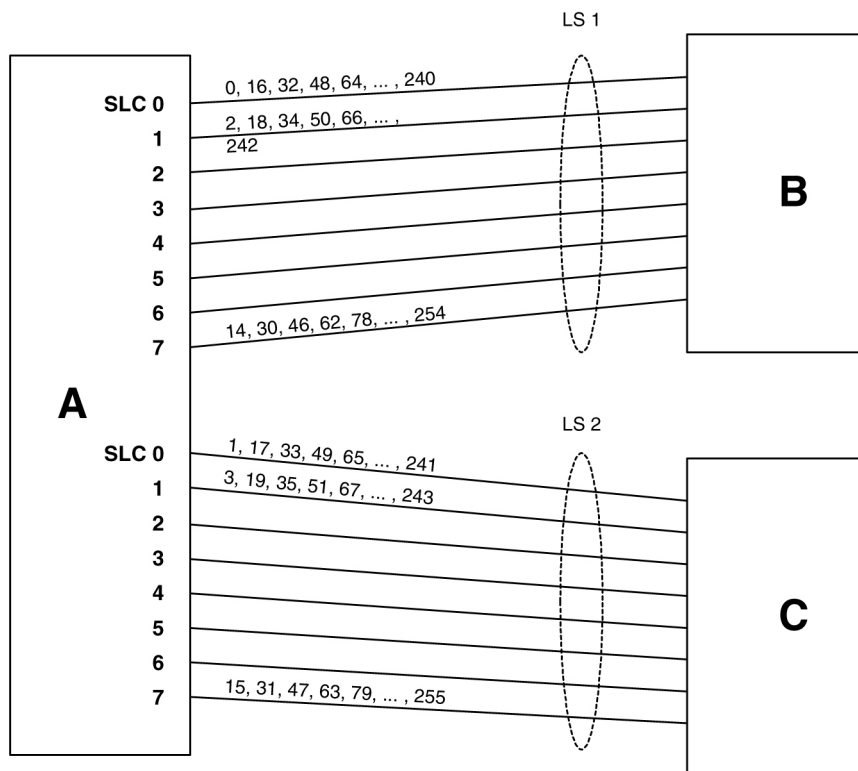

Figure 23: Random SLS Mapping to a Combined Linkset
*Figure 23: Random SLS Mapping to a Combined Linkset* shows an example of a combined linkset from node A to nodes B and C, with 8 links per linkset. Since 8 bits allows for values 0-255 (decimal), the figure shows how these values are internally mapped to the links of the combined linkset. For ease of reading, not all values are shown.
3. The changed SLS value (with fifth and possibly also first bits ignored) is then divided by the number of links in the linkset (not a combined linkset) and the remainder gives the SLC value. For example, in *Figure 23: Random SLS Mapping to a Combined Linkset*, the SLS value 78 is mapped to SLC 7 in linkset LS1 as follows: